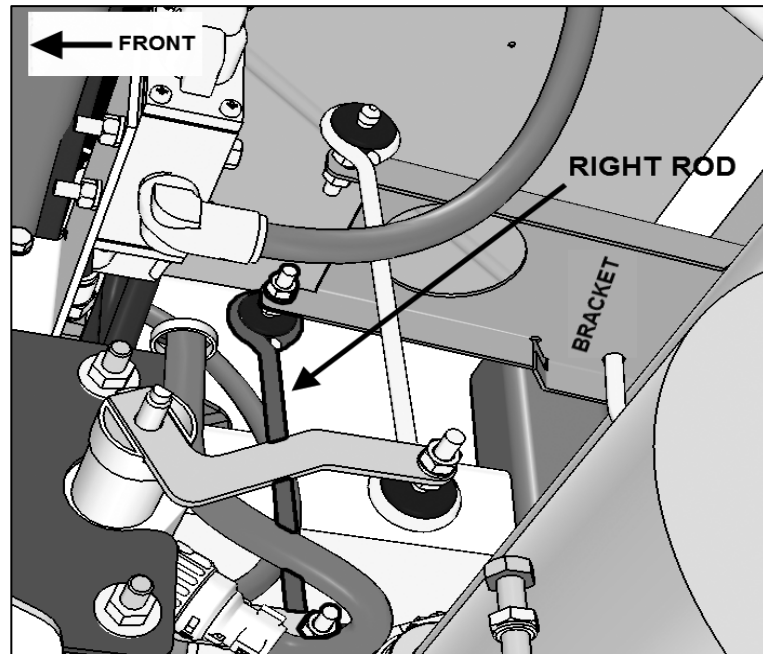

Figure 2
2. In the middle of the sway bar you will find a bracket clamped on the tube. The bracket supports two control rods (Fig. 2)
3. On the right hand side rod. (Fig.2) Unscrew the upper and lower mounting nuts.